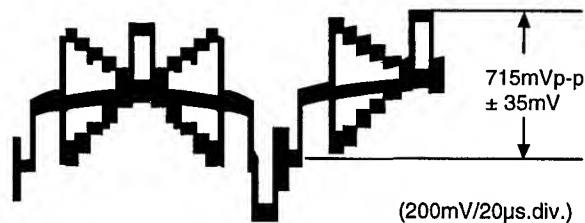

Fig. 3-19
## (2) Knee Adjustment (Fig. 3-19)